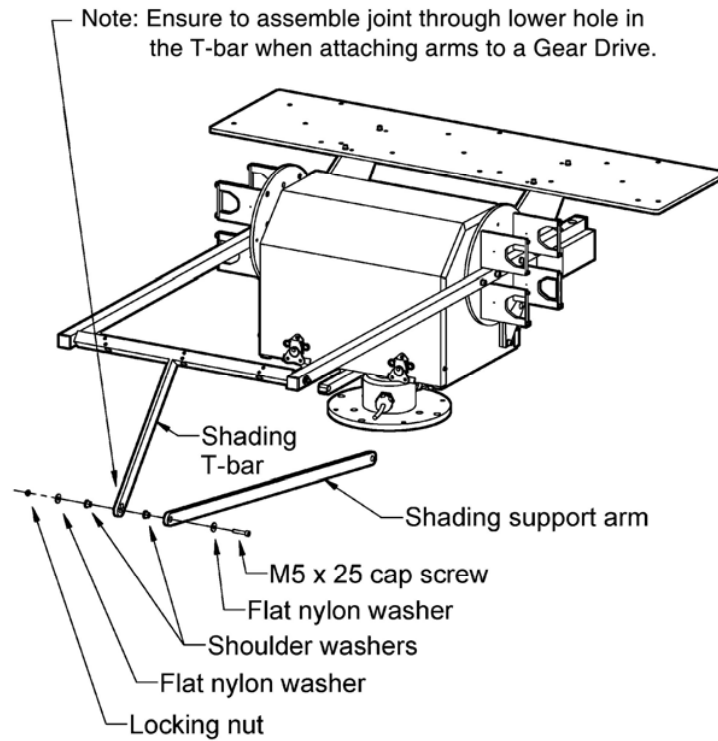

Figure 4.24: Pivot Joint "B" Assembly
- Install the Shading Support Arm to the T-Bar, see figure 4.24. Install the shoulder washers into the holes as shown. Only tighten the locking nut to minimize clearances, ensure free rotational movement.